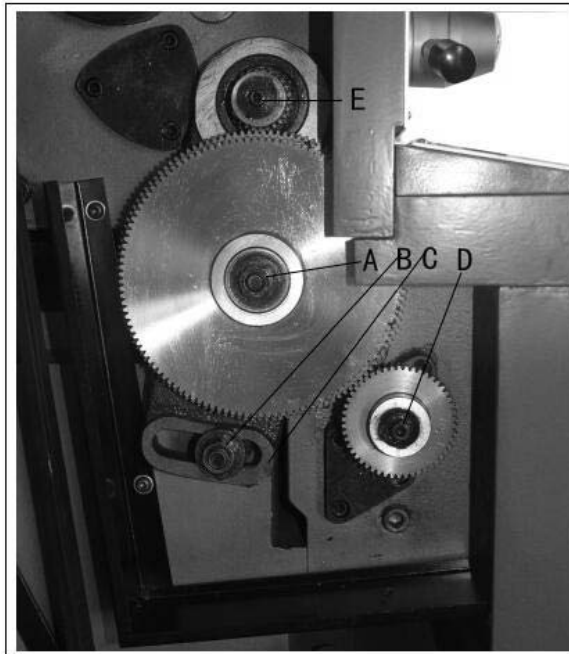

Figure 19
3. Loosen nuts (A & B, Fig. 19).
4. Move quadrant (C, Fig. 19) out of the way and hold in place temporarily by tightening nut (A & B, Fig. 19).
5. Remove hex socket cap screws (D and/or E, Fig. 19), depending on which gear is to be changed.
7. Loosen nut (B, Fig. 19), move quadrant back so teeth mesh on gears, and tighten nuts (A & B, Fig. 19).
3. Push lever (B, Fig. 19) to the right.